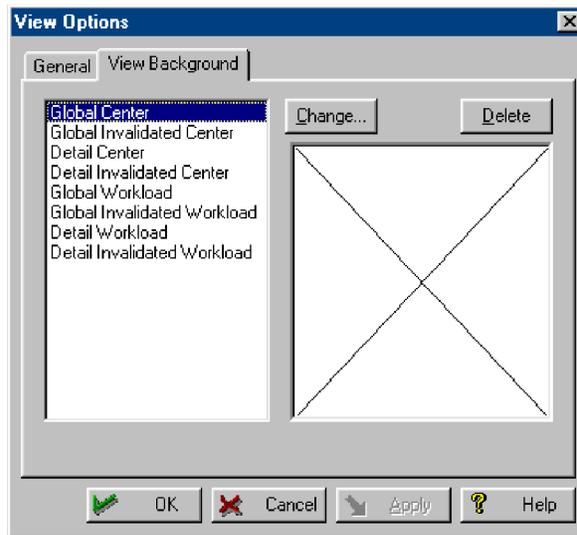

Figure 8.11 *View Options dialog box: View Background tab*
- 2 In the **View Options** dialog box, click the **View Background** tab (Figure 8.11).